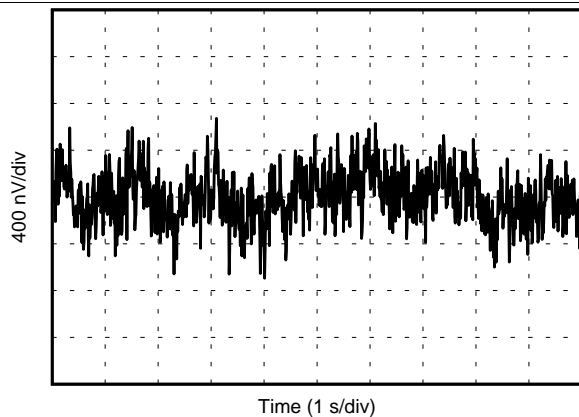

Figure 11. 0.1-Hz to 10-Hz Noise
0.1-Hz to 10-Hz Noise	Figure 11